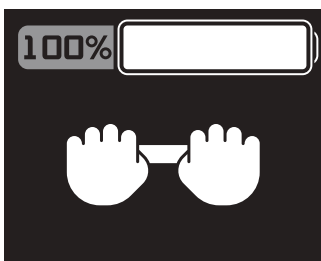

Figure 4.3.3.5
(10) Pushing Mode Display: Refer to Figure 4.3.3.5